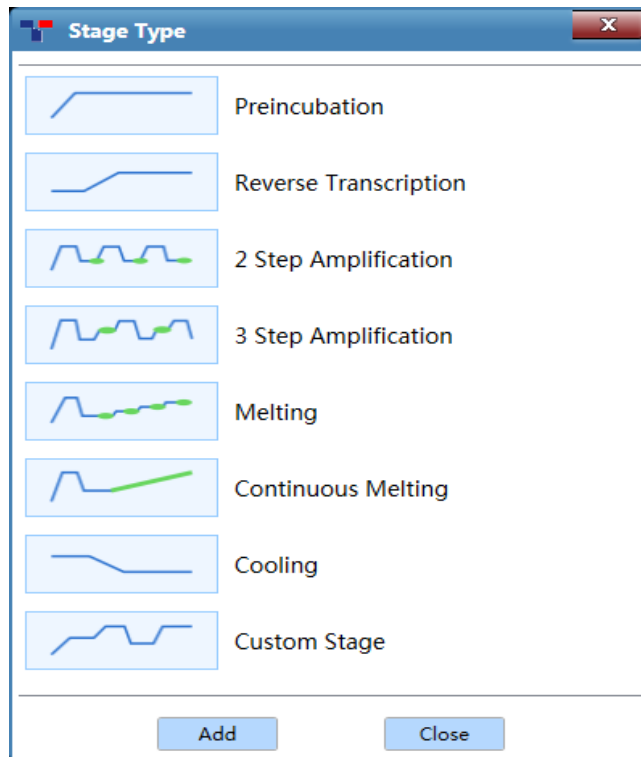

Figure D-5.4 Stage Type window
- ▶ If user add a new stage, the application software will automatically pop up a stage type window, as shown in figure D-5.4.